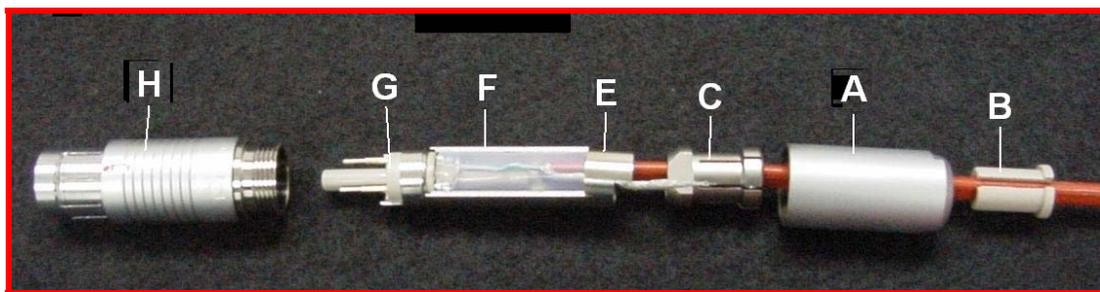

Figure 3: Ready for Final Assembly
10. Place insulating, bakeable shrink tubing, provided, around ground-sense contacts and any bare wire attached to them. (See Figure 3, below to see the applied shrink wrap tubing.)
13. Assemble all parts as shown below in Figure 3